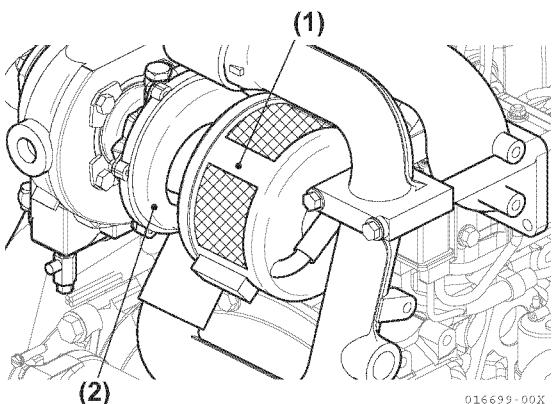

Figure 9-8
(Figure 9-8, (1)).
(Figure 9-8, (2)).